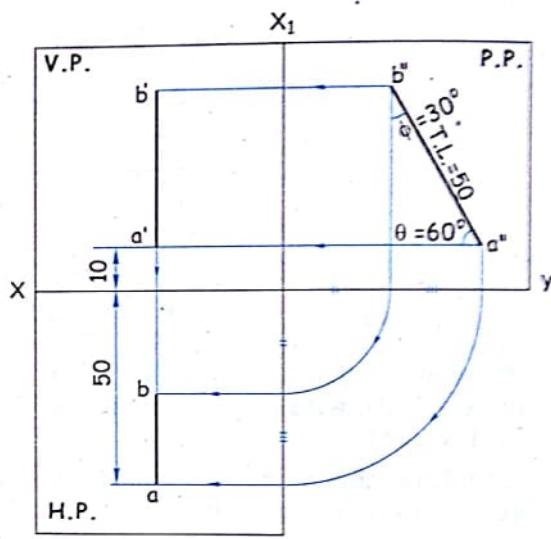

FIG. 8.7 (b)
- The required position of a line AB is shown in figure 8.7 (a).